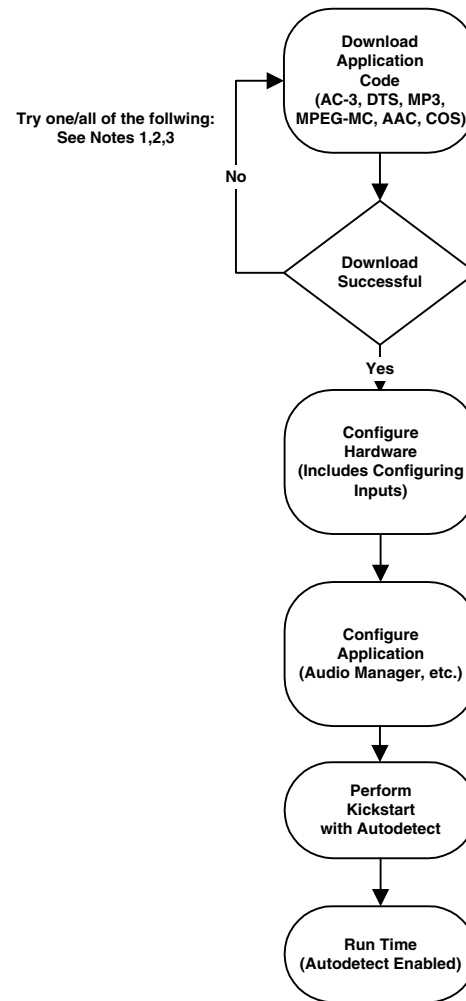

Figure 12. Typical Download Sequence
- 4) Kickstart with autodetection enabled. Please see Figure 12, for an overview of the previously described summary.